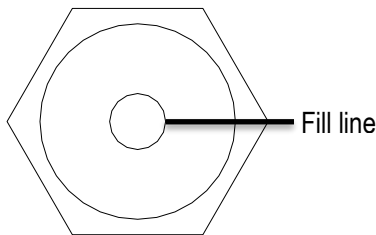

Figure 15
4. Start the unit and run for several minutes. Shut down the air compressor and recheck the oil level. If necessary, add more oil. (Figure 15)